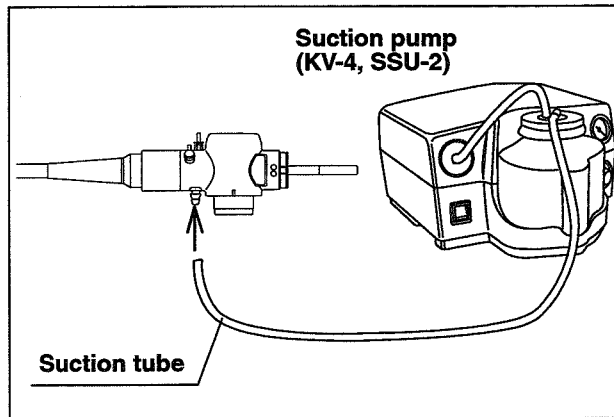

Figure 3.12
7. Connect the suction tube from the suction pump to the suction connector on the endoscope connector (see Figure 3.12).